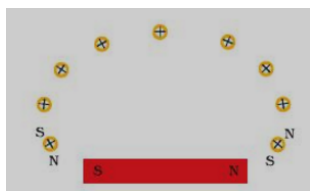

Fig. 3 Drawing a magnetic field line with the help of a compass needle.
- In this way, proceed step by step till you reach the south pole of the magnet as shown in Fig. 3.